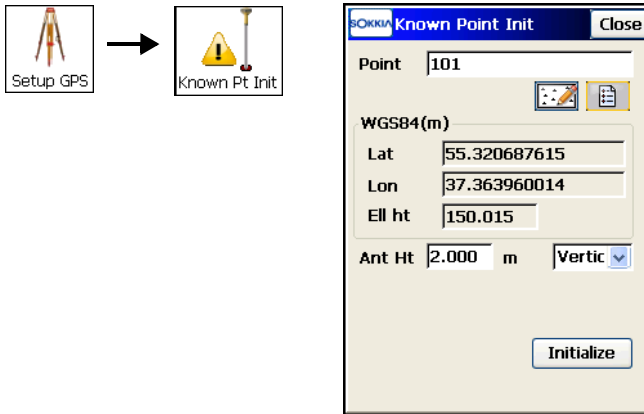

Figure 8-26. Known Point Initialization Screen
1. In the *Known Point Init* screen (Figure 8-26), select the known point and set the antenna parameters of the station.
2. To start initialization, tap the **Initialize** button (Figure 8-26). The *KPI Position* screen displays the status information on Rover initialization (Figure 8-27).